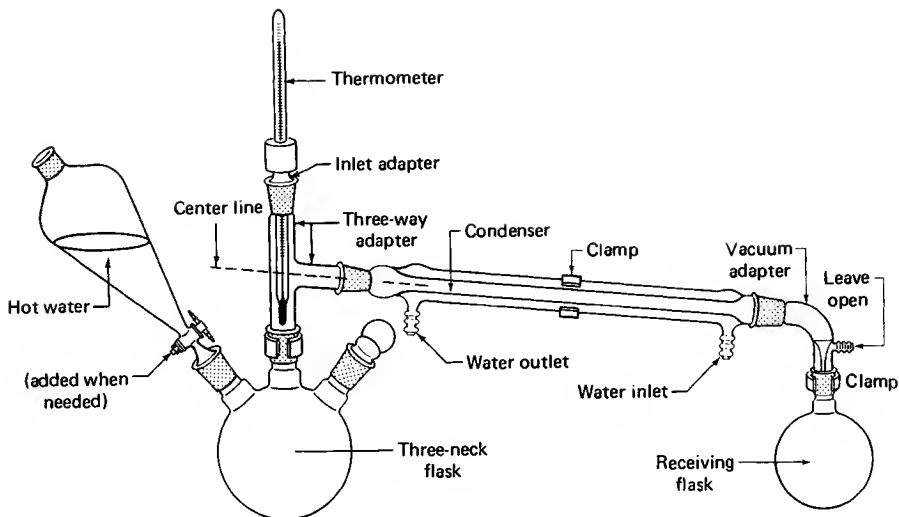

Fig. 82 An internal steam distillation setup.
1. You can add hot water to the flask (Fig. 82) that will generate steam and thus provide an **internal source of steam**. This method is used almost exclusively in an undergraduate organic lab for the simple reason that it is so simple.